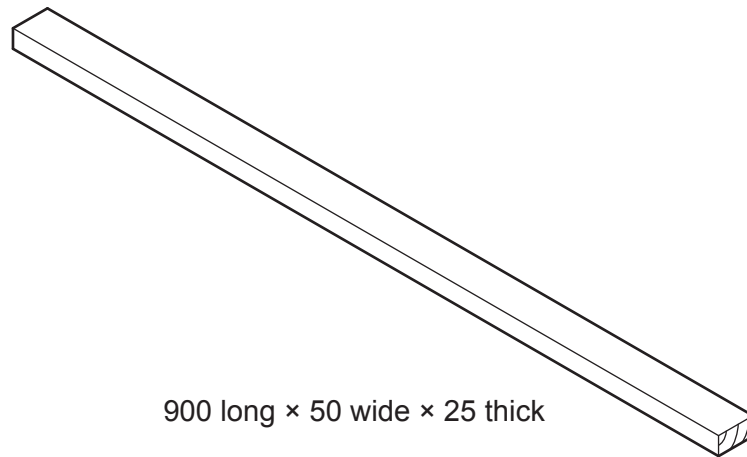

Fig. 11.3
- (d) Fig. 11.3 shows a length of hardwood that will be steam bent to make the rocker.